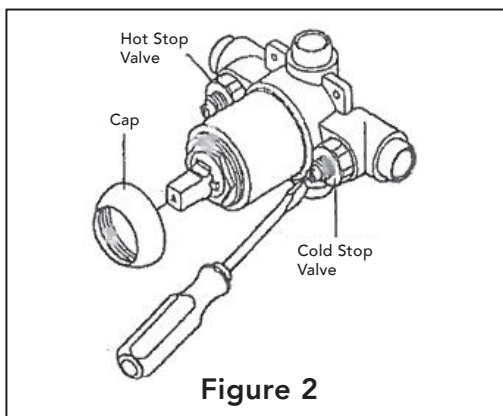

Figure 2
4. Turn off hot and cold stops. **Figure 2**
1. Close both hot and cold stop valves. **Figure 2**
5. Reinstall trim ring and trim cap, then turn on hot and cold stop valves **Figure 2** and check for leaks.
3. If adjustment is required, turn off hot and cold water supply at stop valves. **Figure 2**